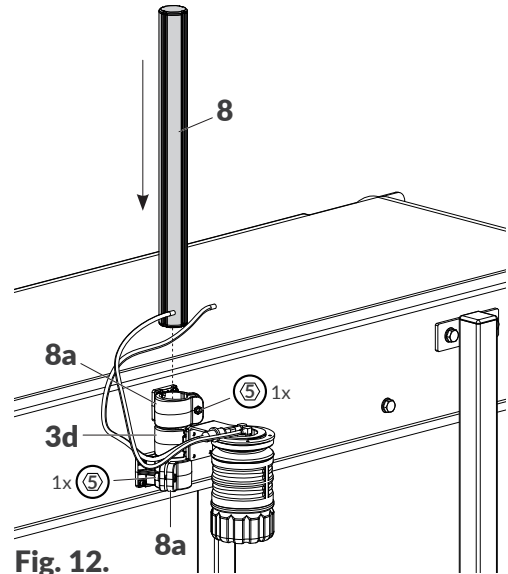

Fig. 12.
4. Put support beam **8** in clamp holders **8a** and in the holder of drip system **3d**, inserting it according to Fig. 12. Use the #5 angle hex key to tighten the appropriate screws that are part of clamp holders **8a** and **3d**, clamping the holders to support beam **8**.